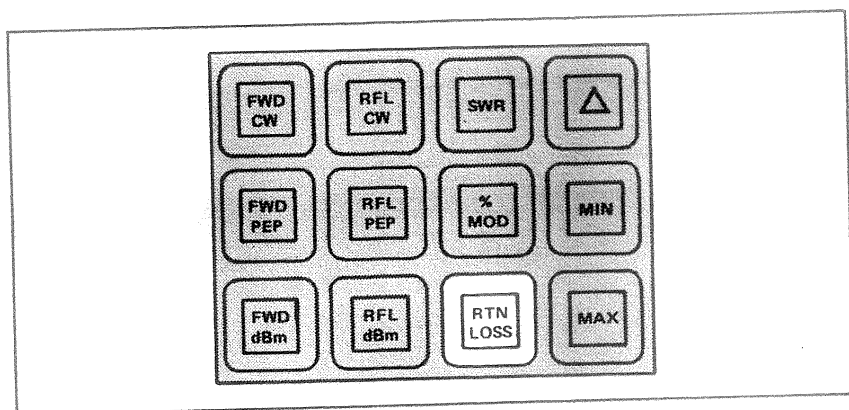

Figure 3-7. Return Loss, Insertion Loss, or Attenuation.
g. **Measuring Return Loss, Insertion Loss, or Attenuation.** (Figure 3-7.) The measurement of return loss is the same as that of SWR except that the result is displayed in dB. In other words a reading of 21.6 indicates that reflected power is 21.6dB down from forward power.